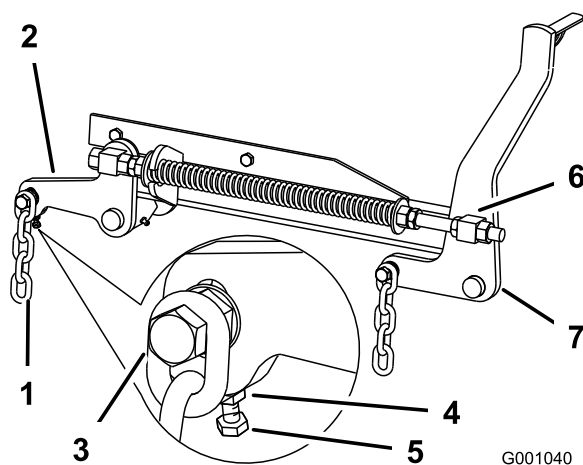

Figure 82
7. If the measurements at positions **B** or **C** are not correct, loosen the bolt attaching the rear chain to the rear support arm (Figure 82).
8. Loosen the jam nut under the rear support arm and adjust the adjustment bolt to get a measurement of 3-1/8 to 3-1/4 inches (80 to 83 mm) (Figure 82).
7. Loosen the front swivel jam nuts, at the front of the right and left swivels, approximately a 1/2 inch (13 mm) (Figure 82).
8. Adjust the lift nuts on both the left and the right side of the machine to achieve 1/4 to 3/8 inch (6 to 10 mm) lower in front at **A** than in the rear at **B** (Figure 82).